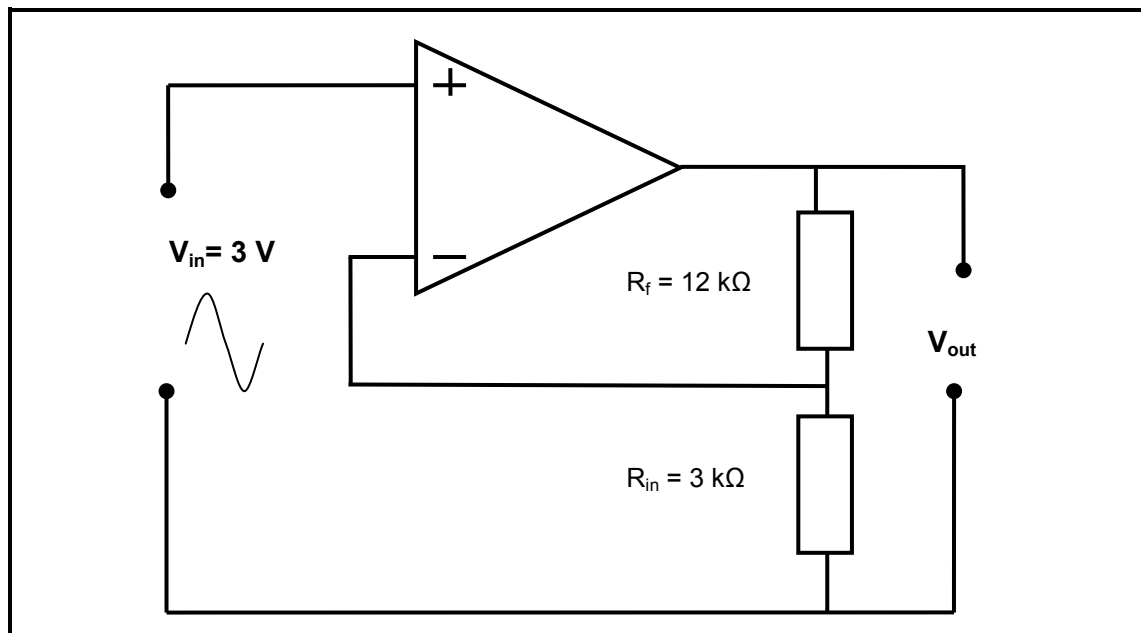

FIGURE 7.3: OPERATIONAL AMPLIFIER CIRCUIT
7.8 FIGURE 7.3 is an operational amplifier circuit.
- 7.8.1 Identify the type of operational amplifier circuit in FIGURE 7.3. (1)